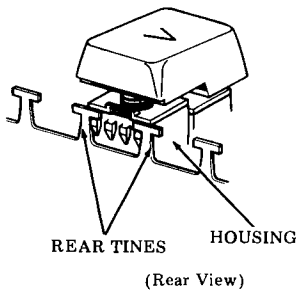

Fig. 8—Rear Tine Disengagement
- (1) Remove the keytops that surround the < keytop using 346260 tool.
- (2) Disengage the rear tines from housing with a small screwdriver while pulling < keytop up and toward the front (Fig. 8).